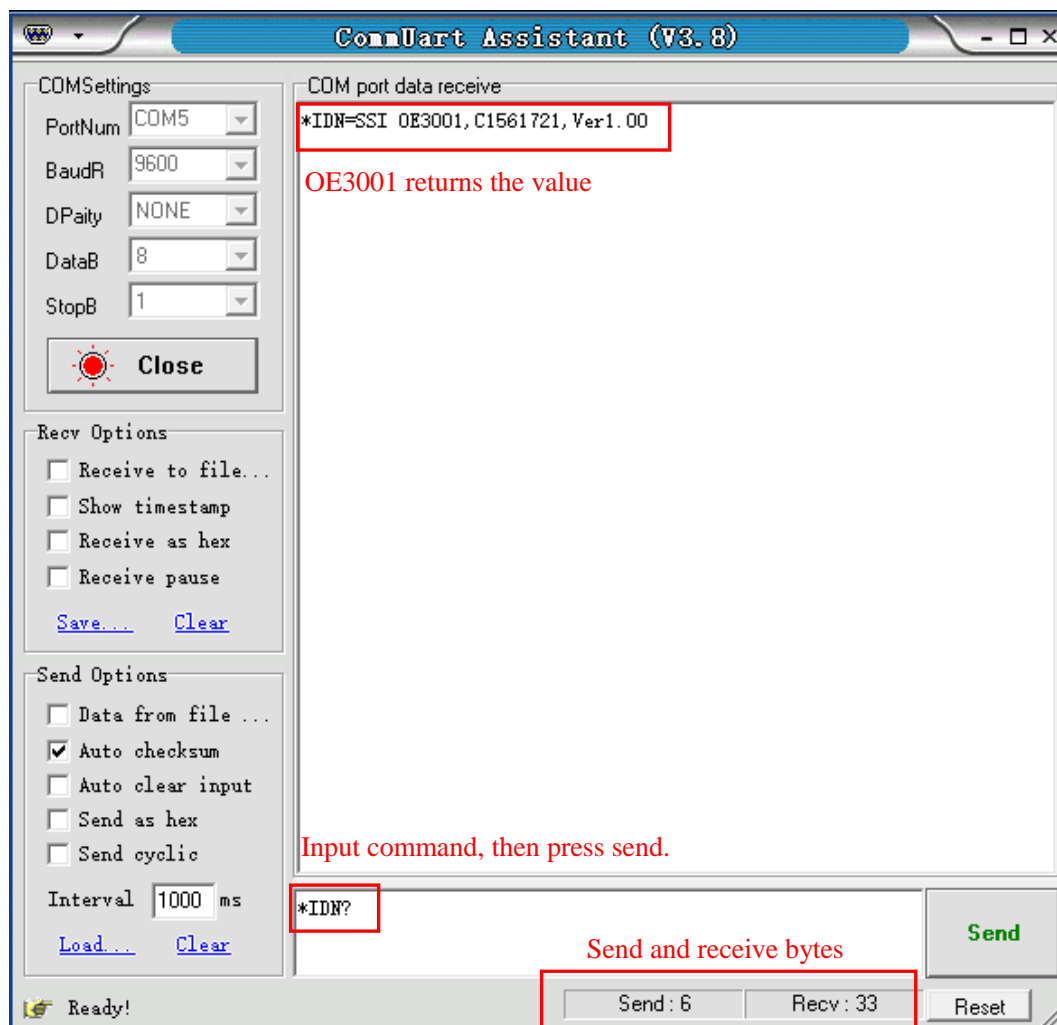

Fig18. Operation example
- a) The commands obey the rules described on Chapter 6.5. The real case is shown in Fig.18. Enter commands and then click “Send”. Then the OE3001 will execute the received commands. If the commands query returns, the returned result will be shown in data receive region.